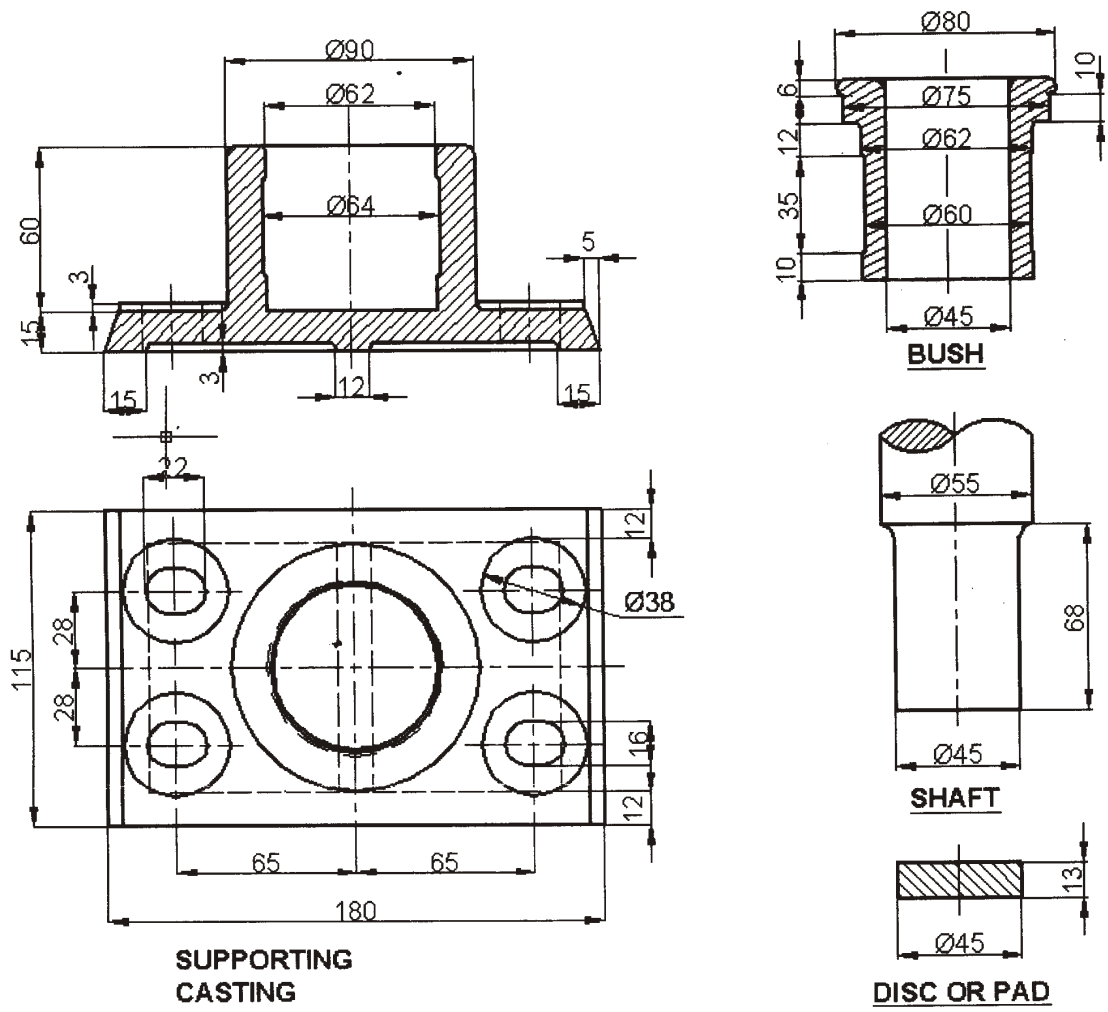

Fig. 1 : Footstep Bearing Parts
- Instructions :** (1) Answer *any one* question.
(2) Each question carries **forty** marks.
(3) All dimensions are in mm and choose suitable scale.
- 5.** Assemble the parts of footstep bearing shown in Fig. 1 (Page 3) and draw the following views : 25+15=40